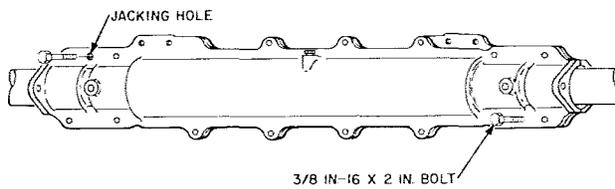

Fig. 25—Prying Case From Cable Sheath
5.04 If only one of the cases has been freed in the preceding operation, assemble the pry bar block in the end collar mounting hole. Place an end collar on the sheath adjacent to the case to prevent damage to the cable, as shown in Fig. 25. Then, using the B pry bar, loosen the case from the sheath. The block can be rotated